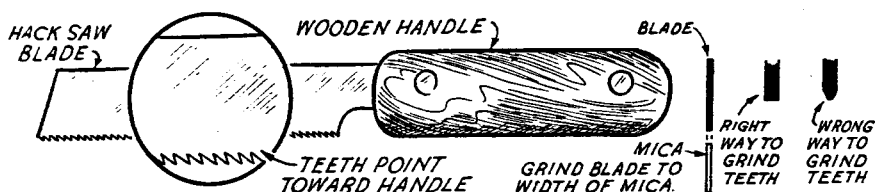
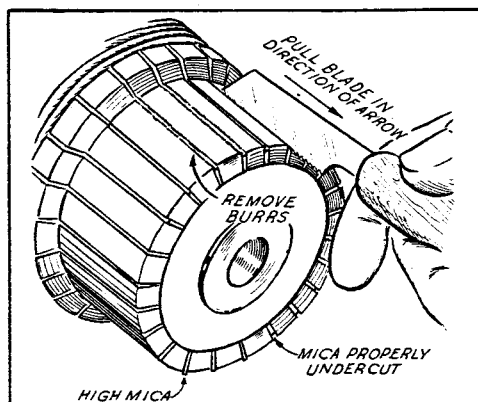

Fig. 27 Mica Undercutting Tool
Fig. 28 Undercutting Mica
**COMMUTATOR AND COLLECTOR RINGS.** - The mica insulation between the commutator bars, or segments, was originally undercut to a depth of  $1/32$  inch below the commutator surface. After a long period of service, the surface of the commutator may become worn down level with the mica. This condition would cause noisy brushes, sparking of the brushes, and pitting of the commutator. The mica should again be undercut to  $1/32$  inch depth. Remove the brush springs and pull all the brushes out of their guides. After tagging any leads disconnected (to assure correct reconnection) remove the end bell. With a mica undercutting tool, or an improvised tool fashioned from a hack saw blade (Fig. 27), carefully cut the mica between all of the commutator bars down to the  $1/32$  inch depth. Use care to avoid scratching the surface. Remove any burrs which may be formed along the edges of the bars, and clean all spaces between bars completely free of any metallic particles, Fig. 28.